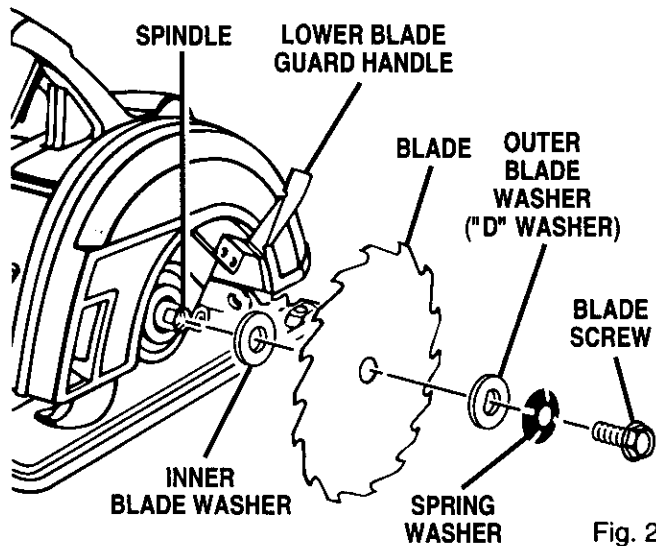

Fig. 2
- Remove blade screw, spring washer, and outer blade washer ("D" washer). See Figure 2.
- Fit saw blade inside lower blade guard and onto spindle. **Note:** The saw teeth point upward at the front of saw as shown in Figure 2.
- Remove spring washer and outer blade washer ("D" washer). See Figure 2. **Note:** Blade can be removed at this point.